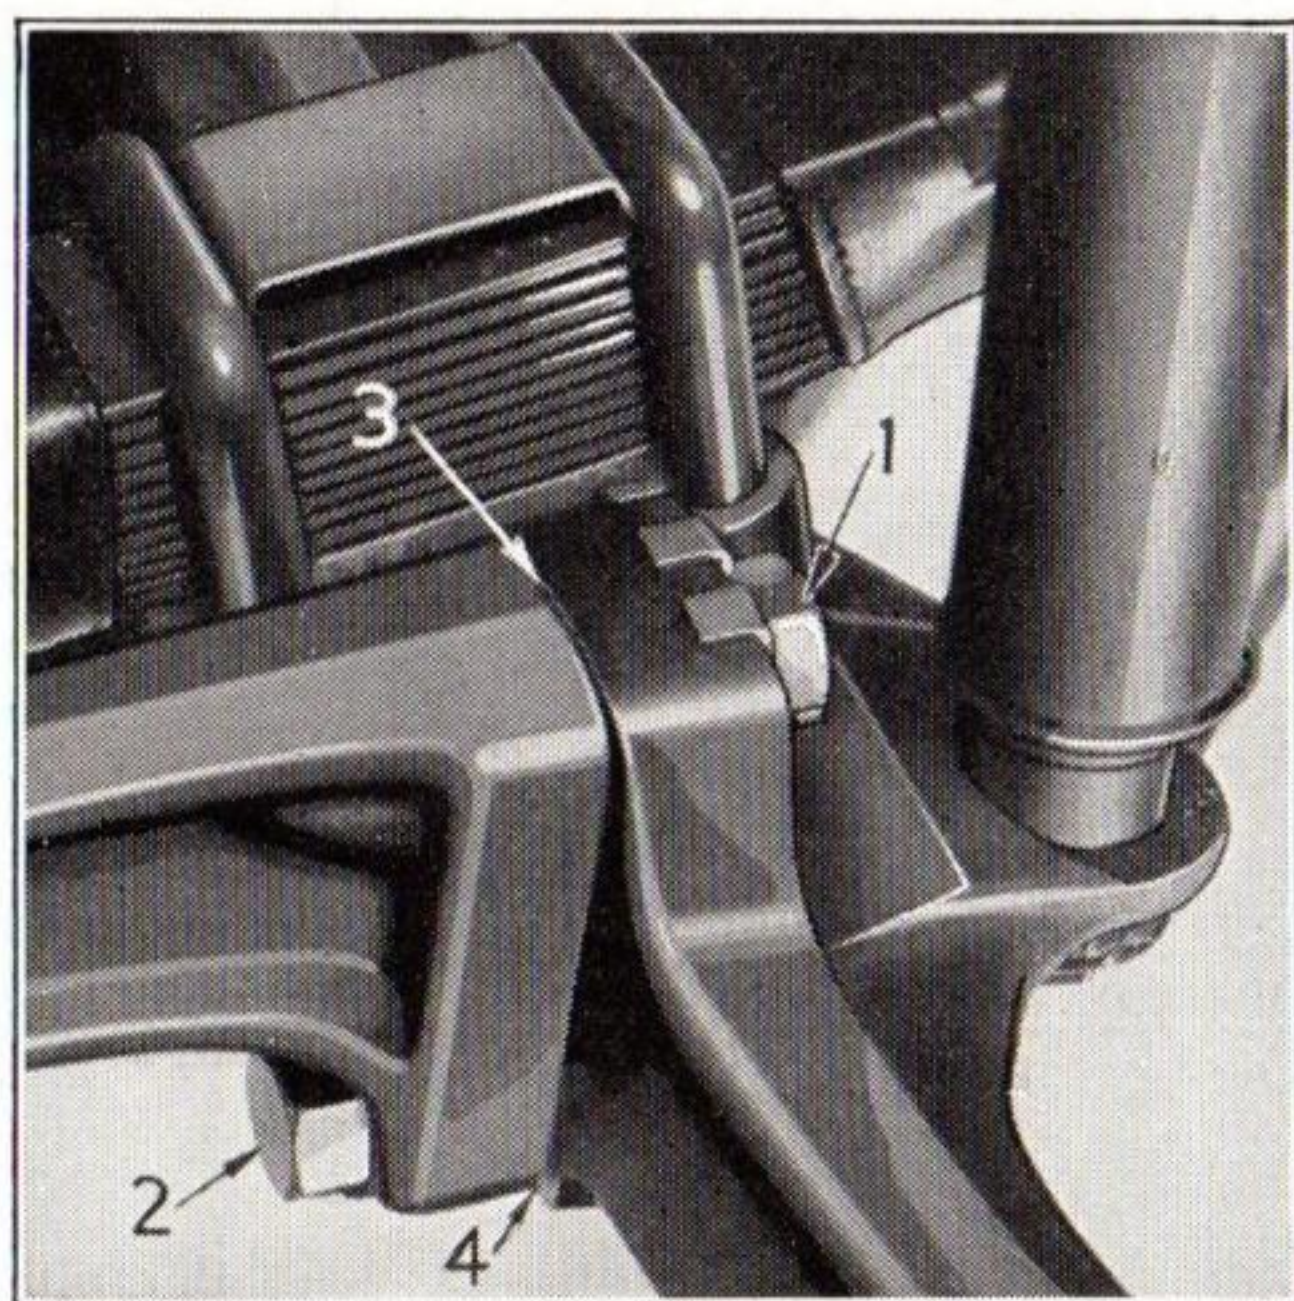

Figure 20
Caster on all models except Series 71 Business Coupe and Series 70 and 78 may be decreased by bending back locks and removing cap screws (1 and 2), Figure 20, and installing shims between the torque arm and upper torque arm boss on each side of the axle (3). By installing shims between the torque arm and lower torque arm boss on each side of the axle (4), caster is increased. In the event that shims are in place and a revision of caster is necessary, the removal of an upper shim (3) on each side of the axle increases caster, while the removal of a lower shim (4) at each side of the axle decreases caster.